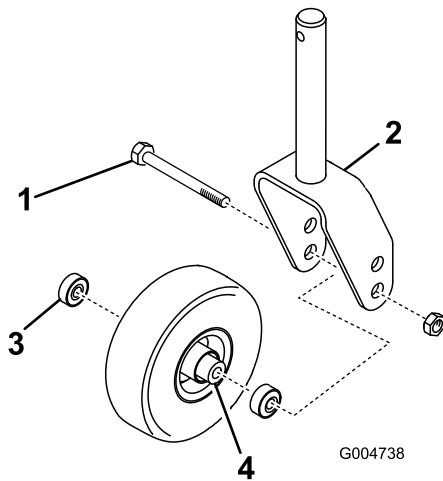

Figure 23
- Remove the locknut from the bolt holding the castor wheel assembly between the castor fork (Figure 23). Grasp the castor wheel and slide the bolt out of the fork or pivot arm.
- Remove the bearing from the wheel hub and allow the bearing spacer to fall out (Figure 23). Remove the bearing from the opposite side of the wheel hub.